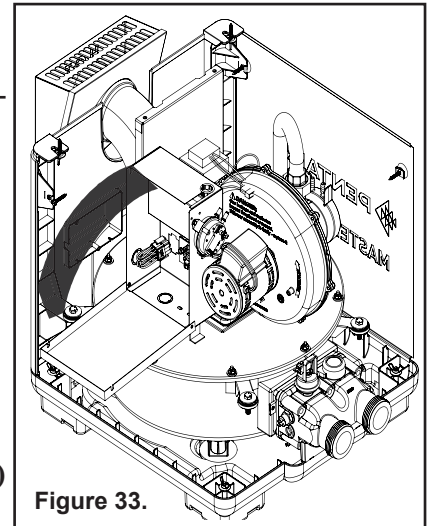

Figure 33.
3. Open control box cover (see Figure 33).
- Connect wires between the control board terminals on the heater and the external relays, as shown in Figure 33. Use at least 2 relays per heater, to allow for an "OFF setting" on each heater mode. Select relays that can handle logic level switching. DO NOT apply line voltage to control board terminals.